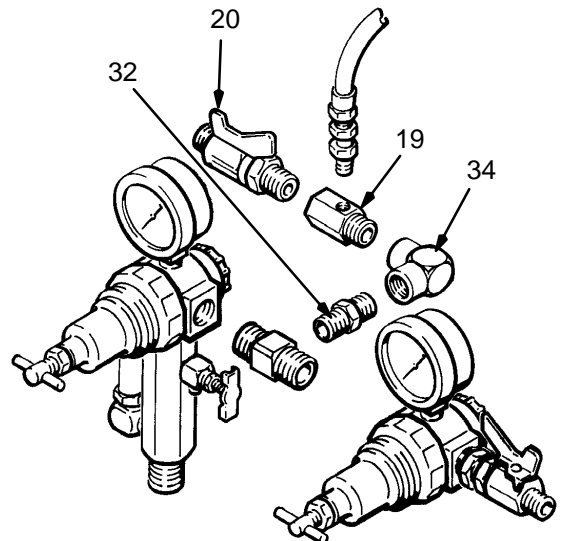

Fig. 5
Turn the elbow back just enough to permit the manifold (19) and the ball valve (20) to be screwed into the elbow (34). See Fig. 5. Connect the agitator hose between the agitator motor and the air manifold.